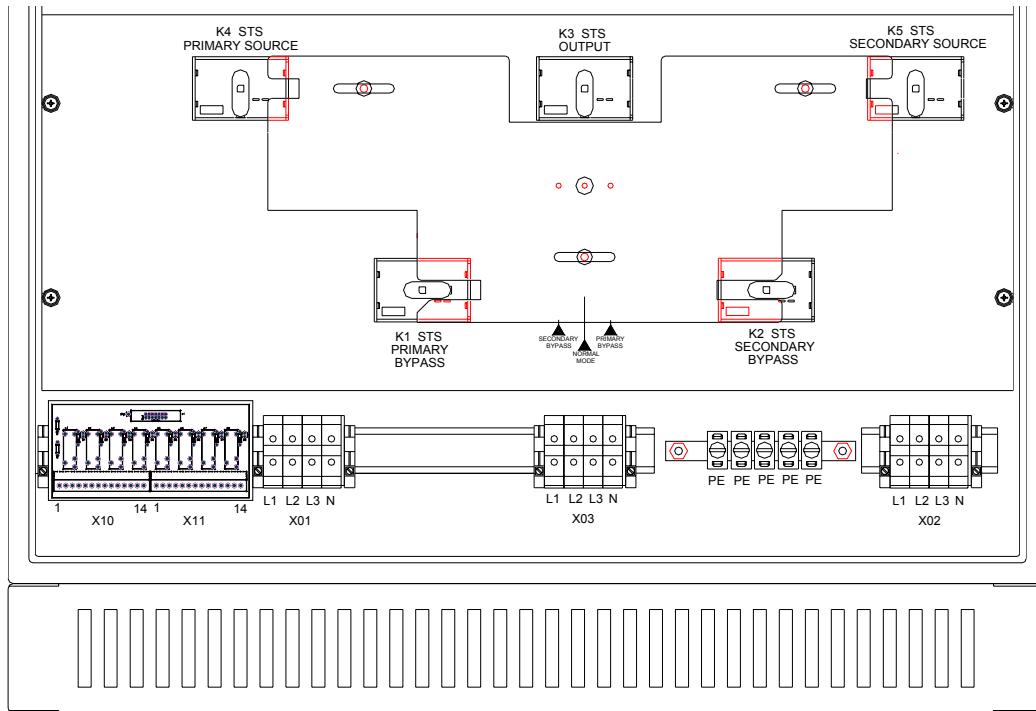
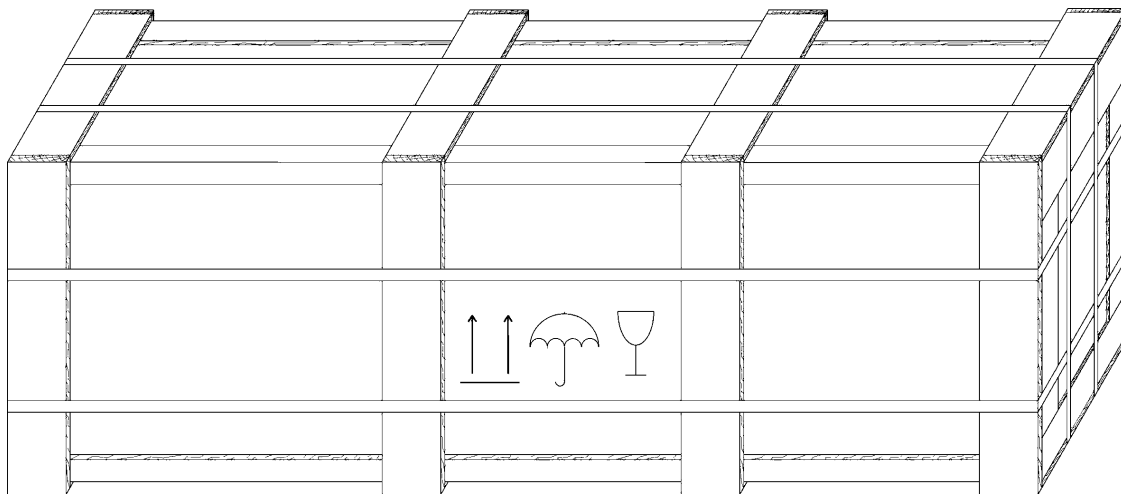

Figure 4.a. High current terminals location for all types excluding STS-400-100-3 (cover removed)
Figure 6. View of crate package
Figure 4 b. High current terminals location for STS-400-100-3
Fuses and TVSS units (TVSS – Transient Voltage Surge Suppressor) are placed behind the plate with MAIN AND AUXILIARY FUSES label (figure 4). Exchange of fuses and TVSS units is possible after removing that plate (figure 6).
6. Firmly connect five wires coming from the first supplying device (PRIMARY SOURCE) into the X01 PRIMARY SOURCE terminal (figure 4).
7. Firmly connect five wires coming from the second supplying device (SECONDARY SOURCE) into the X02 SECONDARY SOURCE terminal (figure 4).
8. Firmly connect the five wires going to the load (STS OUTPUT) into the X03 STS OUTPUT terminal (figure 4).